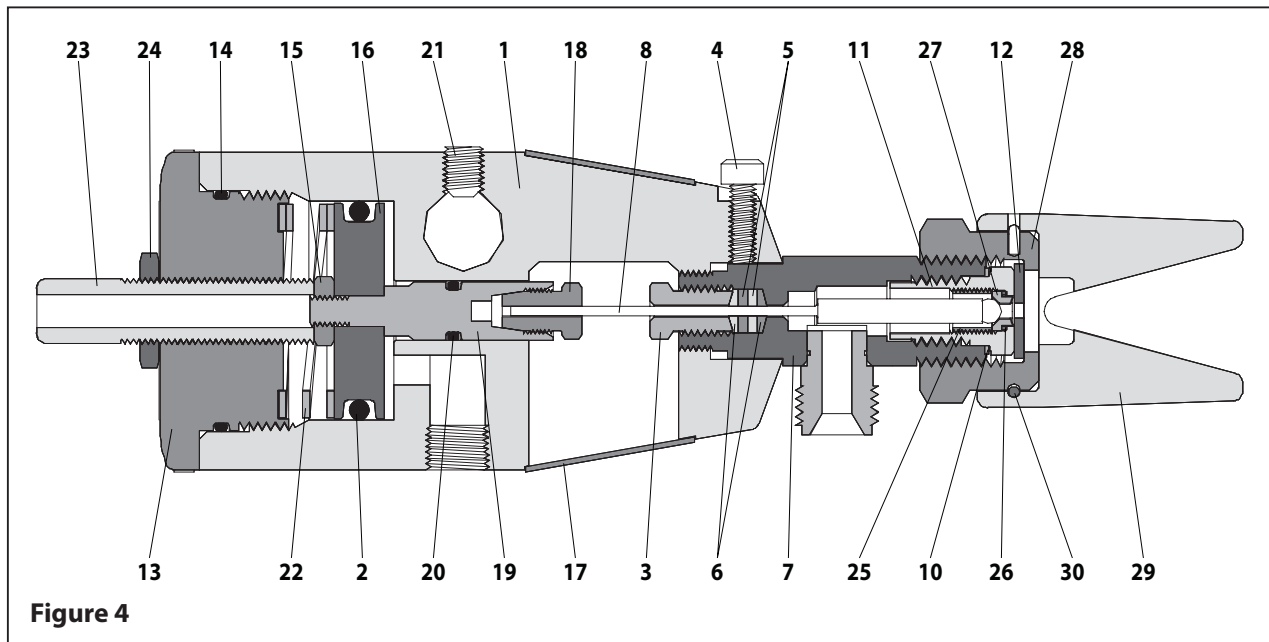

Figure 4
1. Replace the (10) washer.
2. Put the (8) ball and stem assembly into the (7) gun body and adapter assembly.
3. Assemble (26) gasket and (27) ball seat into (11) screw, securing with (25) screw.
4. Thread (11) screw into (7) gun body and adapter assembly and tighten into body. NOTE: The (9) guard is used on the spray type models only. When assembling an extrusion type gun, insert an extrusion tip assembly instead.
5. Put the (12) washer inside (9) guard (see note) and thread into (7) gun body and adapter assembly and tighten.
7. Put one of the new (6) packings onto the wire of the (8) ball and stem assembly (see figure 4, page 3, for correct installation).
8. Put the two (5) flat packings onto the wire of (8) ball and stem assembly.
9. Put the remaining new (6) packing onto the wire of (8) ball and stem assembly (see figure 4, page 3 for correct installation).
10. Slide the (3) retaining screw over the wire of the (8) ball and stem assembly. Push the packings into the cavity of the (7) gun body and adapter assembly.
11. Thread (3) retaining screw into (7) gun body and adapter assembly.
12. Push (8) ball and stem assembly into (11) screw until ball seats against (27) ball seat. Then tighten (3) retaining screw. Caution: Do not bend (8) ball and stem assembly.
13. Thread (7) gun body and adapter assembly into (1) body, until it is in position shown in figure 4, page 3.
14. Tighten (4) cap screw.
15. Put (2) "O" ring onto the (16) piston.
16. Put (20) "O" ring onto the (19) piston rod.
17. Put (19) piston rod through (16) piston. Thread (15) nut onto (19) piston rod and tighten, using flats provided.
18. Thread (18) collet nut into (19) piston rod loosely.
19. Lubricate (2 and 20) "O" rings and push (16) piston into (1) body. Do not force into (1) body. CAUTION: Make sure the (8) ball and stem assembly wire enters the (18) collet nut.
20. Push the (16) piston until it bottoms in the (1) body.
21. Push the (16) piston back out off the bottom of (1) body, approximately 1/32". NOTE: Make sure (8) ball and stem assembly is still seated against (27) ball seat.
22. Tighten (18) collet nut by holding (15) nut. Do not move piston from position given in step (21).
23. Replace (22) spring, securing with (13) cap.